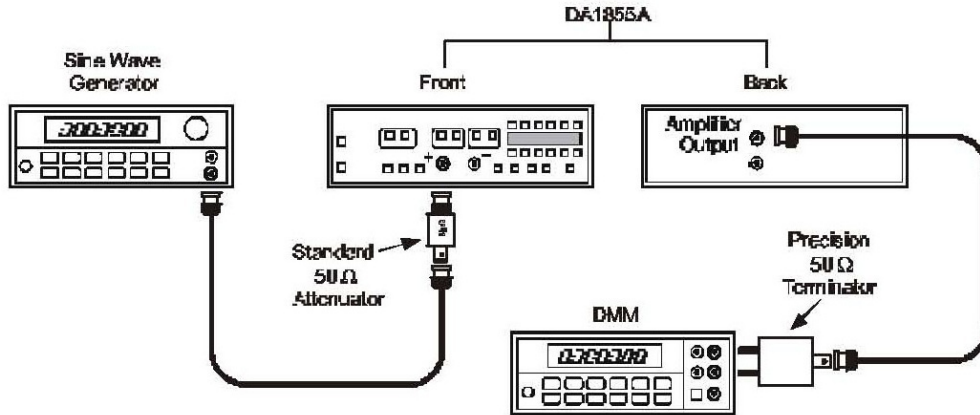

Figure 9, X1 Gain Accuracy Test Setup.
9. Remove the banana plug adapter from the DMM and connect the DA1855A AMPLIFIER OUTPUT connector via another coaxial cable and the precision 50 Ω termination to the DMM. See Figure 9.